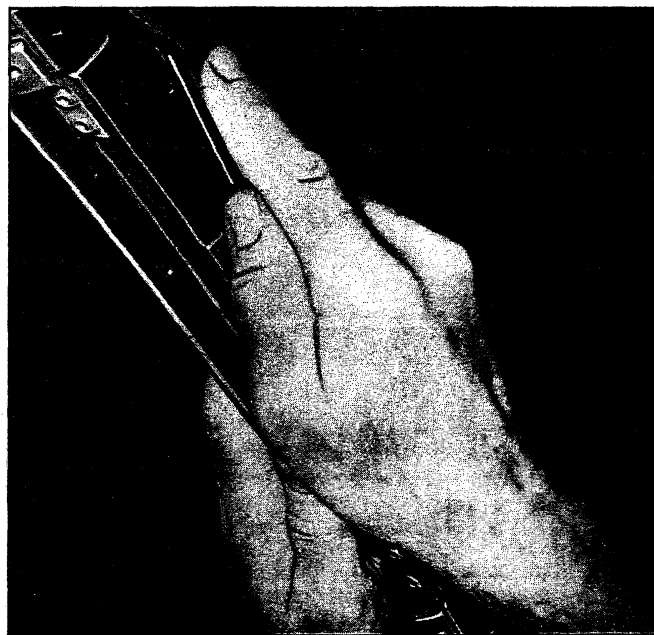

Fig. 16—Removing Weatherstrip From Frame
5. From inside vehicle carefully pry weatherstrip from pinchweld flange of windshield frame (fig. 16) and work windshield-weatherstrip assembly out of body opening toward front of vehicle.